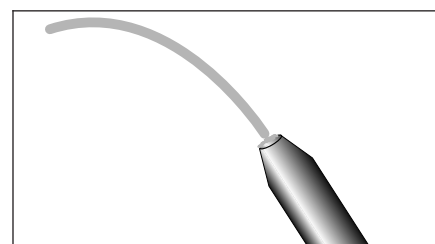

Figure 2 Tin Tip
6. Tin bottom of tip with solder. (See Figure 2.)